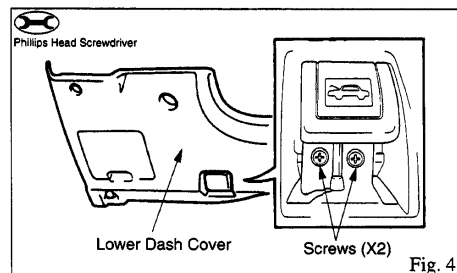

Fig. 4
(4) Remove the hood release lever. (2 Screws) (Fig. 4)